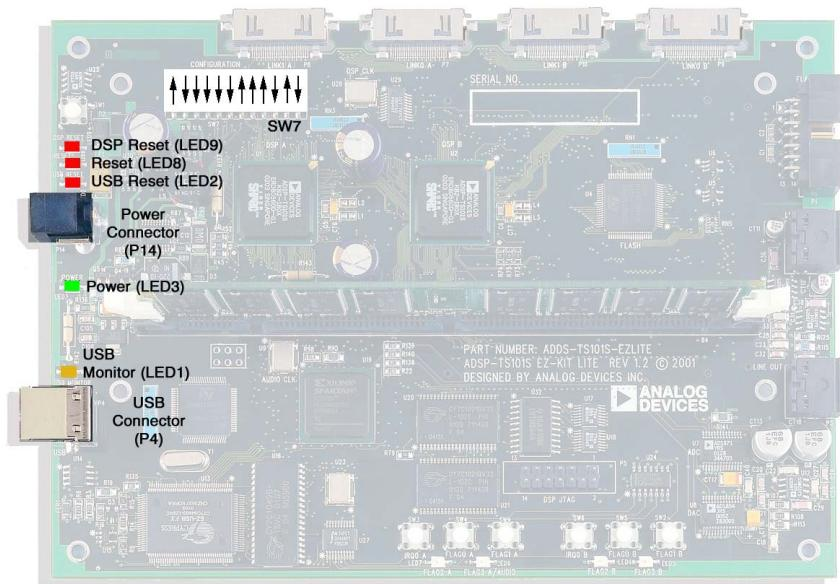

Figure 1-1. EZ-KIT Lite Hardware Setup
Figure 1-1 shows the default jumper settings, DIP switch, connector locations, and LEDs used in installation.
2. Confirm that your board is set up in the default configuration (Figure 1-1) before going to step 3.